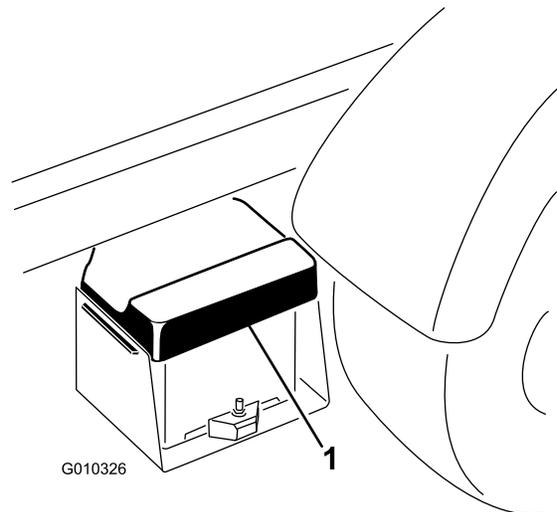

Figure 5
1. Squeeze the battery cover to release the tabs from the battery base (Figure 5).
2. Remove the battery cover from the battery base (Figure 5).
- Align the battery cover to the battery base (Figure 5).
- Squeeze the battery cover, align the tabs to the battery base, and release the battery cover (Figure 5).